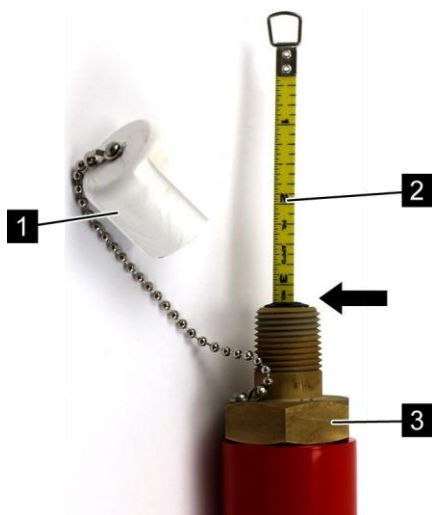

Fig. 32: Reading the fill level
- Do not unscrew the brass hexagon (Fig. 32/3) of the liquid level indicator.
1. ➤ Unscrew the plastic protective cap (Fig. 32/1).
2. ➤ Pull tape measure (Fig. 32/2) out of the liquid level indicator to the stop.
4. ➤ Read the fill level on the measuring tape above the threaded union (Fig. 32/arrow).
5. ➤ Detach the measuring tape (Fig. 32/2) from the float with rapid hand movement, and lower it completely into the liquid level indicator.
6. ➤ Screw on the plastic protective cap (Fig. 32/1).